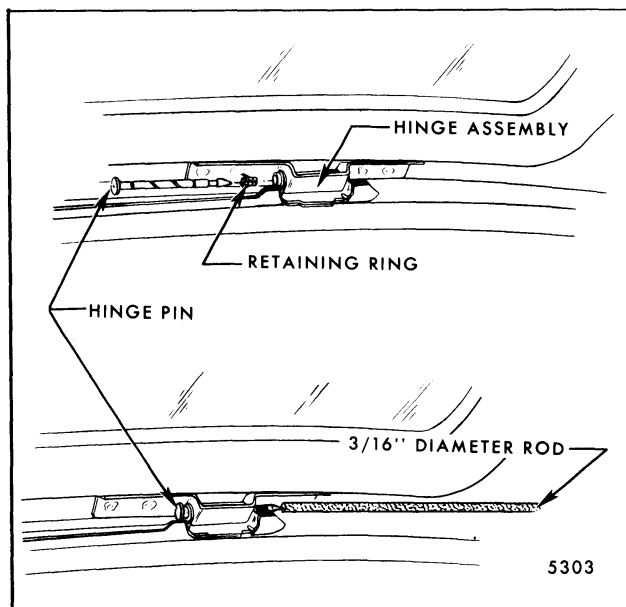

Fig. 7-68-Tail Gate Hinge Pin Removal
9. Use a 3/16" diameter rod, 18" long to remove hinge pins from hinge. As shown in Figure 7-68, place end of rod against pointed end of hinge pin; then, strike rod firmly to shear retaining clip tabs and drive pin through hinge. Repeat operation on opposite side hinge and remove tail gate from body.
1. Install new retaining rings onto notches provided in hinge pins. Position rings so that tabs point toward head of pin as shown in Figure 7-68.